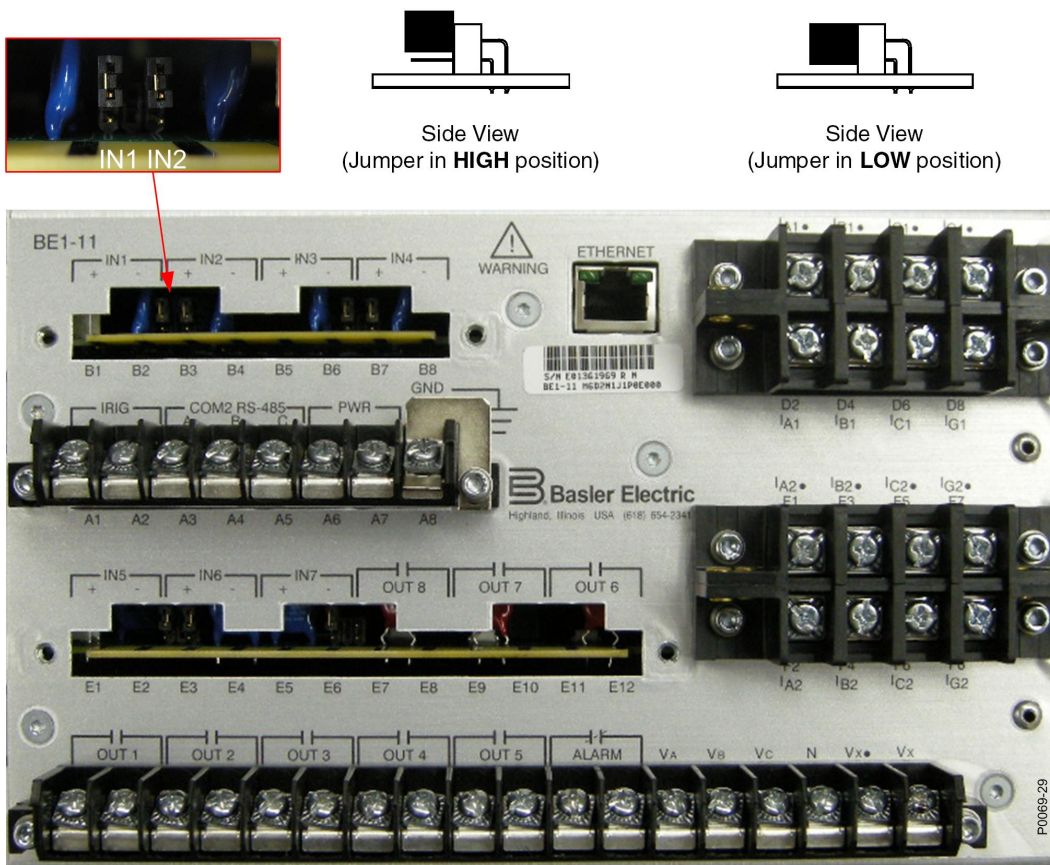

Figure 4-1. Contact-Sensing Jumper Locations (J Type Case, Standard I/O Option)
3. Using the input labels on the rear panel as a guide, locate the appropriate jumper terminal block that is mounted on the circuit board. Each terminal block has two sets of pins. With the jumper as installed at the factory, one pin should be visible when viewed from the back of the unit. This configuration allows the inputs to operate at the higher end of the control voltage range. Figure 4-1 illustrates the location of the contact-sensing jumpers. The jumpers are shown in the HIGH position.